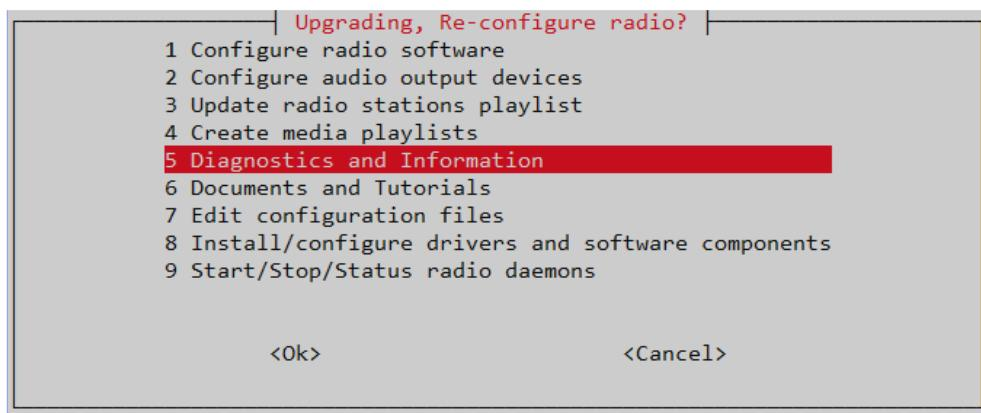

Figure 240 Diagnostics and Information menu
- Select option **1 Run the radio in diagnostic mode (nodaemon)** shown in *Figure 240 Diagnostics and Information menu* on page 197.
- Select option **2 Test rotary encoders** from the diagnostics menu. shown in *Figure 240 Diagnostics and Information menu* on page 197.
- Select option **2 Test rotary encoders** from the diagnostics menu shown in *Figure 240 Diagnostics and Information menu* on page 197.
- Select option **4 Test events layer** from the diagnostics menu shown in *Figure 240 Diagnostics and Information menu* on page 197. This displays the following output